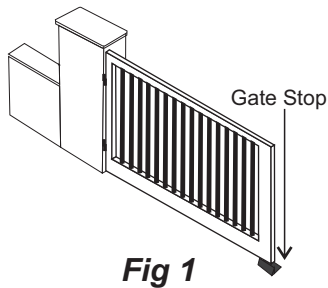

Fig 1
1. On the driveway itself at the furthest point from the hinge as illustrated in the diagram below (Fig 1).